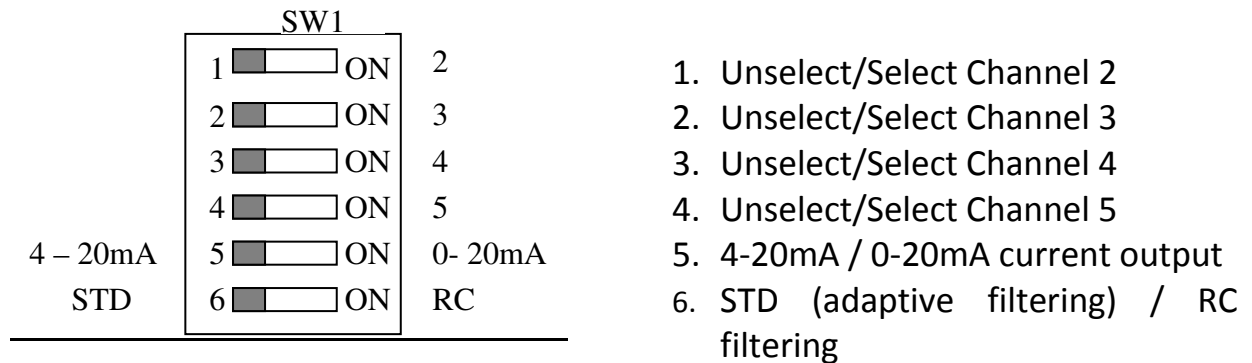

Figure 4 Bit switch Settings (item 4 on **Figure 3**)
The Chillcard NG has a number of bit switches which enable the user to control various aspects of the sensor's behaviour. Bit switch 6 (see item 4 on Figure 3 and Figure 4) is used to change the output filtering between the standard adaptive type filter and a simple RC Filter. The value of the RC filter is factory set to 8 seconds by default but this may be altered by the user through the RS232 port (see RS232 port user manual).
The Chillcard NG provides a standard optimised response time (T_{90}) of 10 seconds with the bit-switch 6 (see Figure 4) on position "STD". Alternatively an RC type response can be selected by setting bit-switch 6 to position "RC". The time constant of the RC filter is programmed using an internal variable and may be set and viewed using the RS232 port and terminal software (see Procedures for RS232 communication with the Gascard NG). Smaller time constants produce more rapid response but reduced short term stability (i.e. a noisier output).